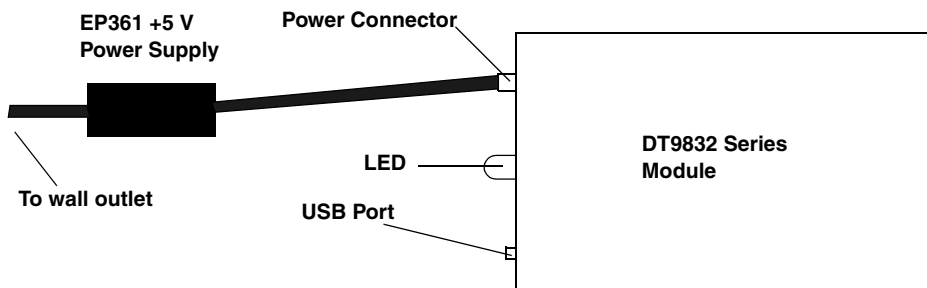

Figure 2: Attaching a +5 V Power Supply to the DT9832 Series Module
1. Connect the +5 V power supply to the power connector on the DT9832 Series module. Refer to Figure 2.